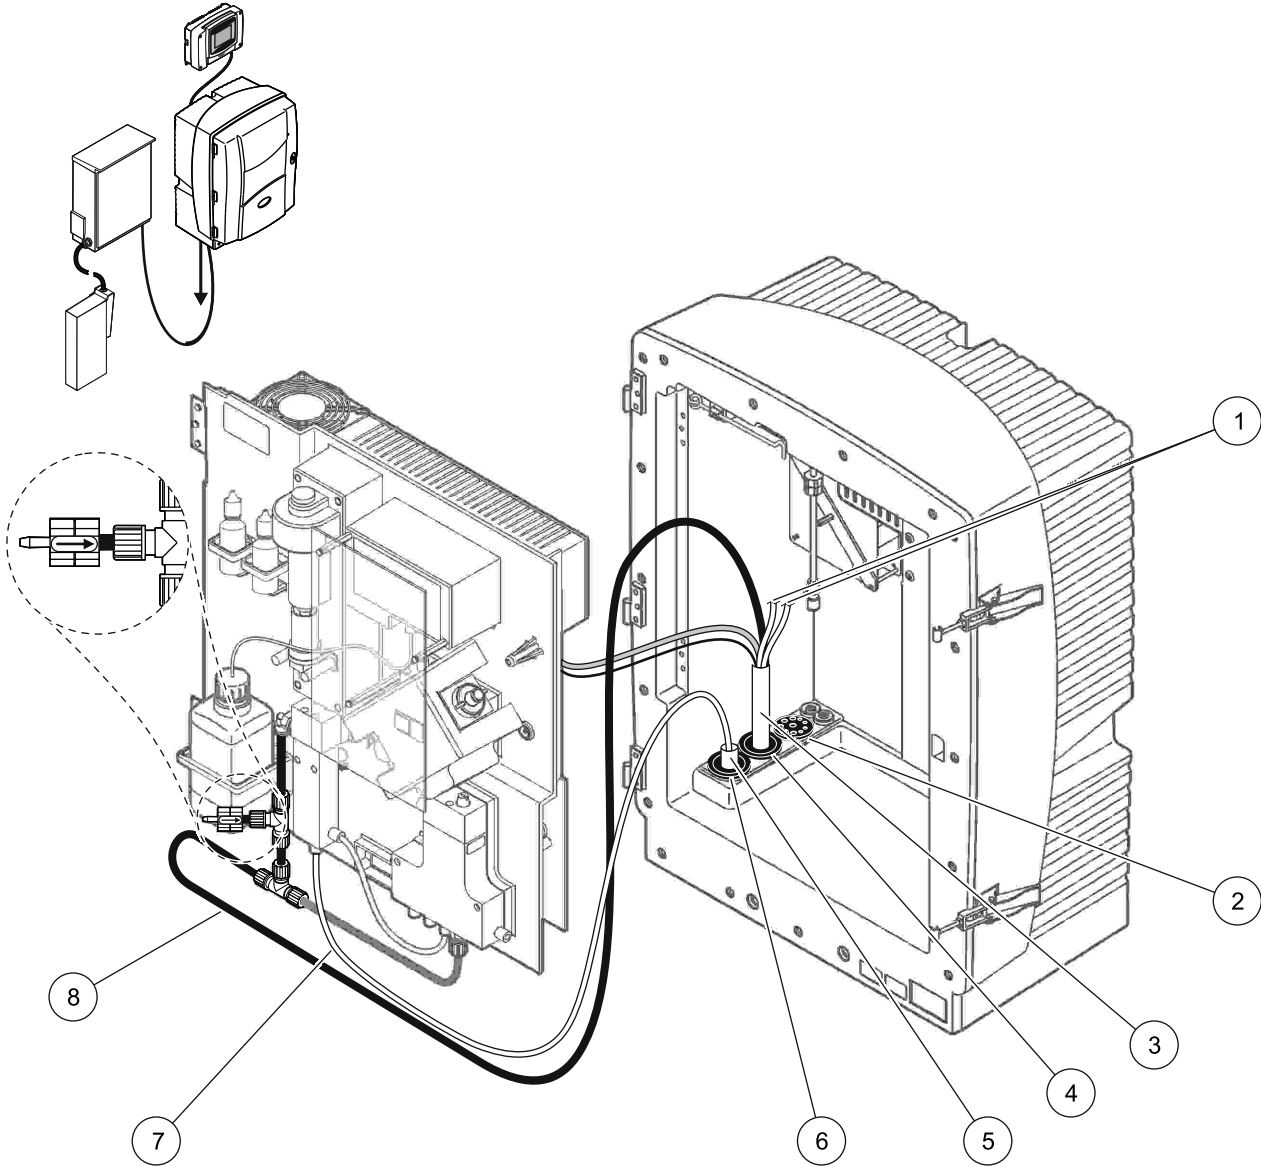

Figure 31 Option 3 setup
Refer to Figure 31 and the following instructions for Option 3:
2. Feed the heated hose from the FILTRAX through the analyzer opening (Figure 31, item 5). Use Seal Plug #1 to secure.
3. Feed the heated drain hose through the analyzer opening (item 3). Use Seal Plug #1 to secure.